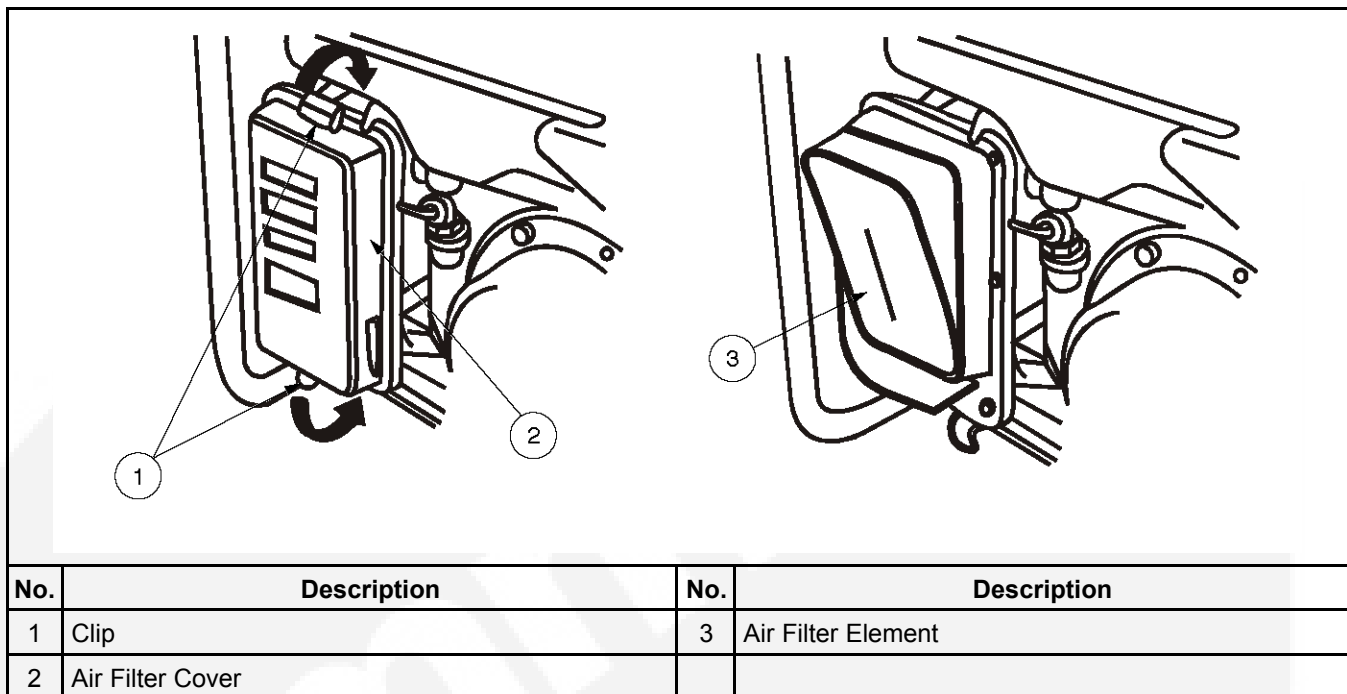

FIGURE 18. AIR FILTER
1. Remove the filter cover (Item 2 in Figure 18) by unsnapping the two spring clips (Item 1).